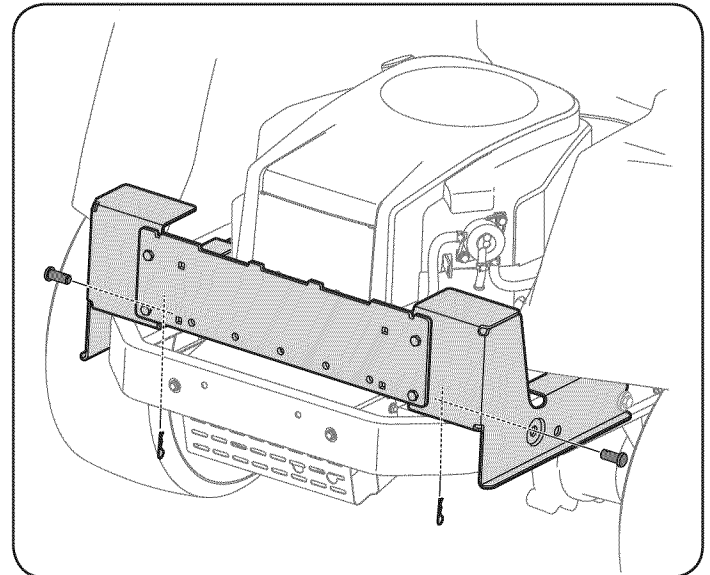

Figure 3
2. Secure the mounting bracket assembly to the tractor using two 911-0310 clevis pins and 914-04023 cotter pins from hardware pack 689-00320. See Figure 3.